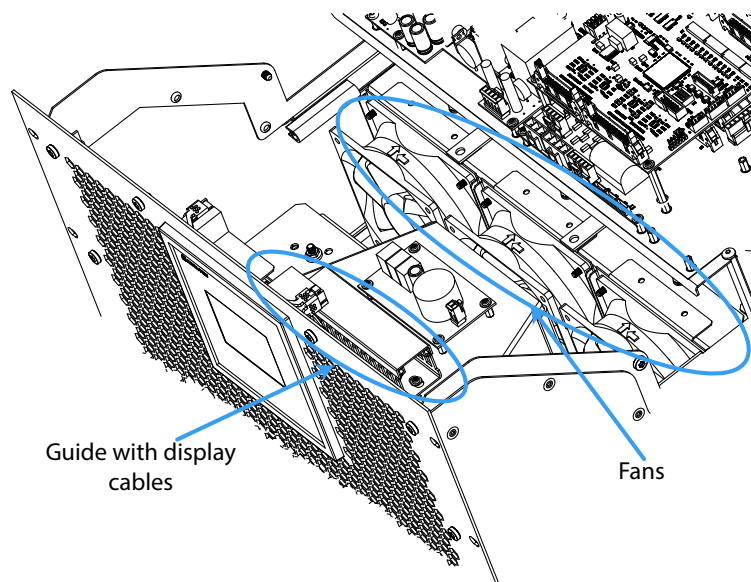

Figure 84: Position of the guide with the cables from the screen and fans.
4.- Remove the screen's cables from their guide and disconnect the fans' cables, **Figure 84**.